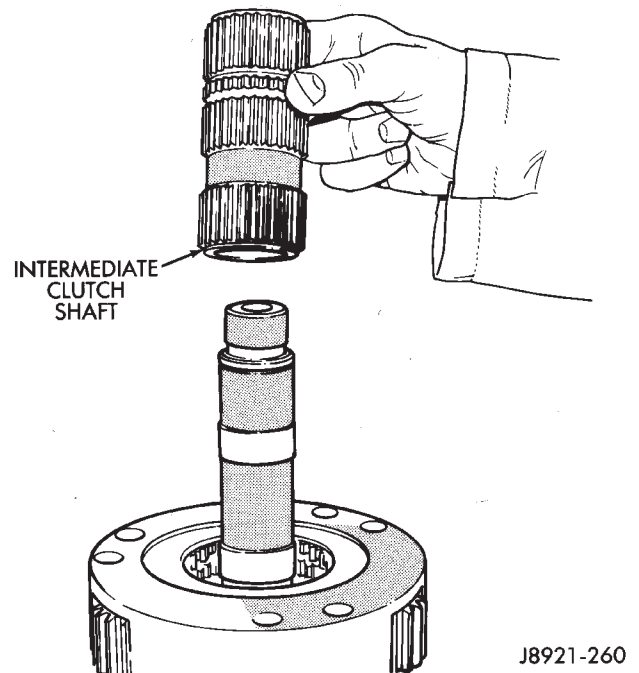

Fig. 21 Removing Intermediate Clutch Shaft
(33) Remove intermediate clutch shaft (Fig. 21).